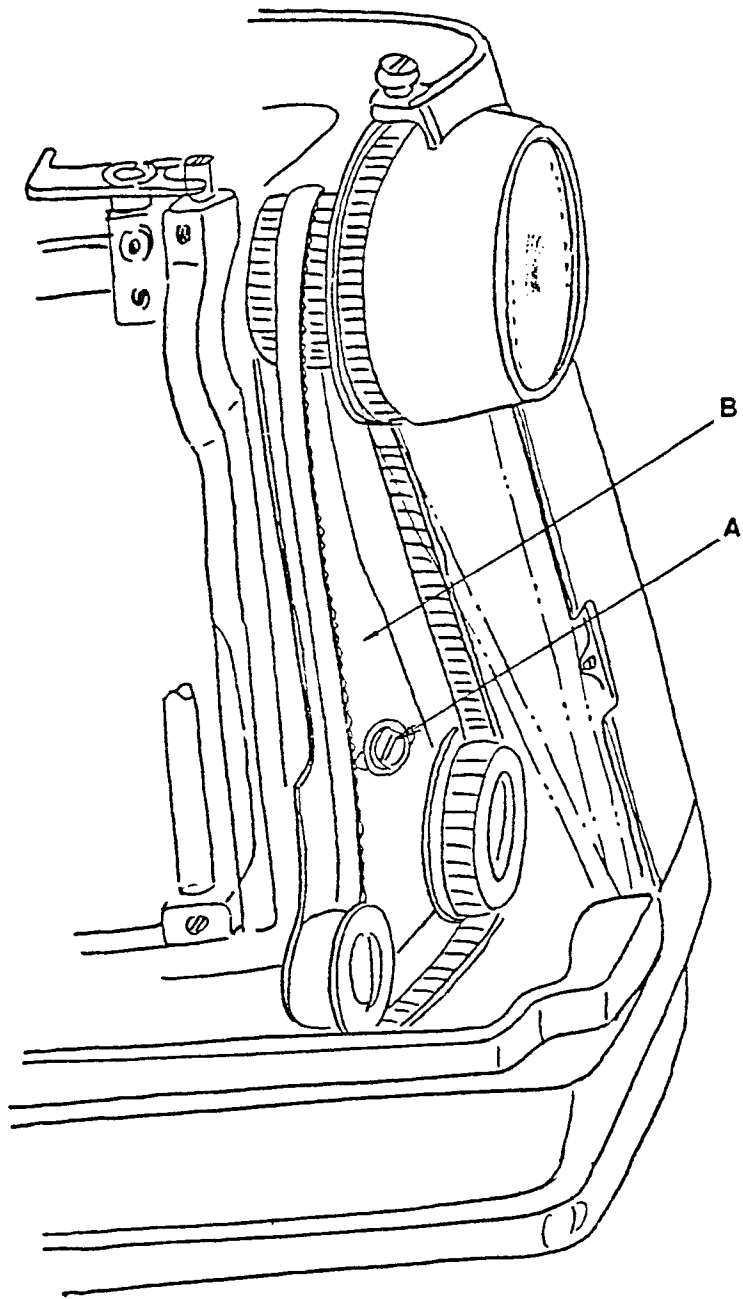

Fig. 12
1. Loosen fastening screw (A) that holds idler pulley bracket (B). Maintain a slight pinch on screw (A) for control. (Fig. 12).
2. While running the machine at high speed, push idler pulley bracket (B) to the rear to slow down the machine. Then pull toward the front of the machine as required to adjust belt tension. Note changes in machine speed during this adjustment.
3. Hold bracket (B) and tighten screw (A).